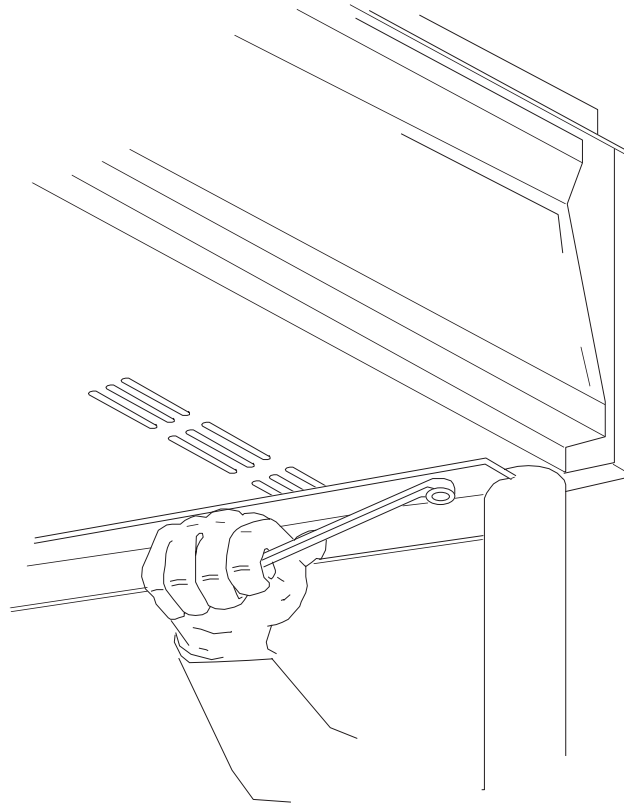

Figure 2-2
3. Turn stand right side up and secure to griddle with 3/8-16 bolts and lockwashers as shown in Figure 2-2.